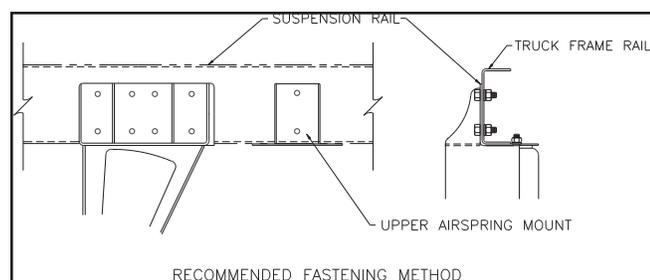

Figure 5-4
9. Drill (2) 11/16” diameter hole thru suspension side rails and truck frame rails. Fasten each suspension side rail to truck frame with 5/8 – SAE Grade 8 flat washer and 5/8 lock nut Grade 8. Recheck proper location, then drill the remaining holes, 8 (eight) minimum per Side Rail recommended. Install the remaining bolts, washer and lock nuts (See Figure 5-4) and torque capscrews to proper torque.
10. Properly locate the upper bag plate. Refer to the suspension drawings. Drill (2) 11/16" Diameter holes thru mounting bracket and chassis frame. Fasten each bag plate assembly with 5/8 SAE Grade 8 capscrew, 5/8 SAE Grade 8 flat washer and lock washer. (See Figure 5-4.)